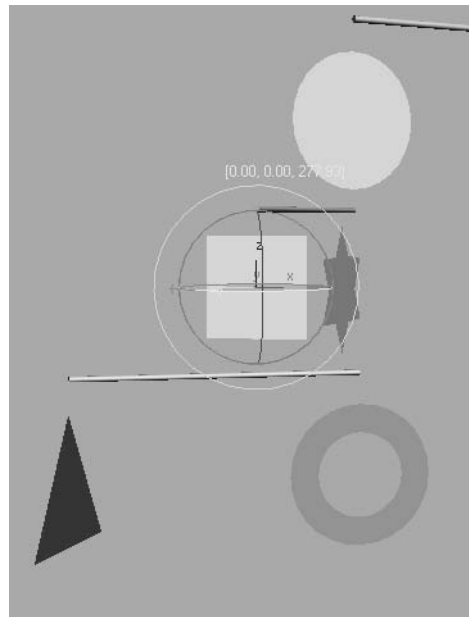

Figure 8.3
3. Still at frame 50, select the square on the bar above, and rotate that shape in the Z-axis several hundred degrees in either direction. Figure 8.3 shows the rotation of the square. The bottom bar goes along with the square's rotation because this is how they were linked in Chapter 2. Don't scrub your animation yet.